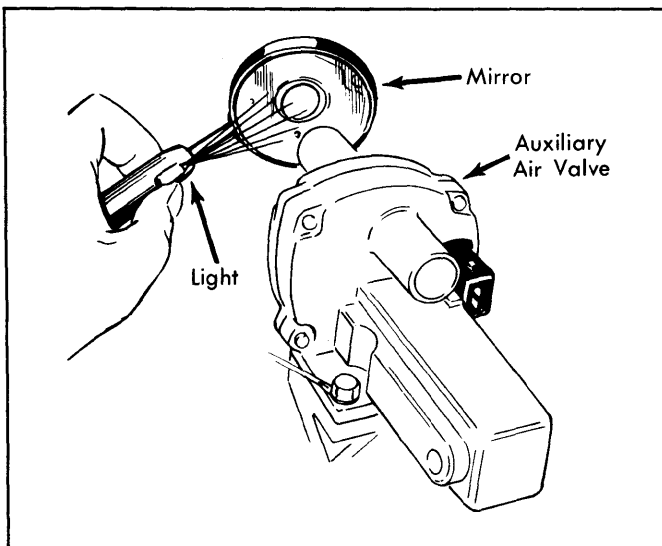

Fig. 6: Checking Auxiliary Air Valve Opening
4) Using a mirror and flashlight, check to see that air passage in regulator is open (cold engine). See Fig. 6. Turn ignition on and reconnect auxiliary air regulator vacuum hoses (if removed). Air passage in regulator should close after 5 minutes. If not, replace auxiliary air regulator.